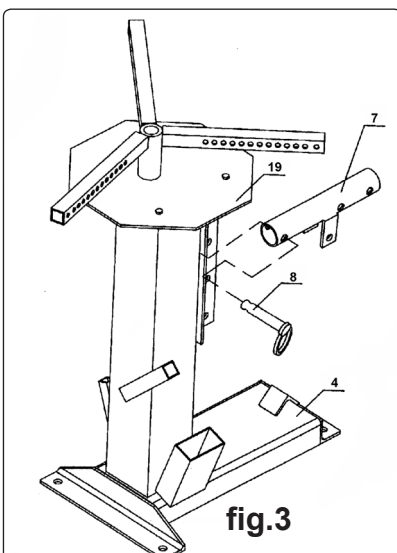

fig.3
- 3.2 Attach Pivot Arm (7) to the Main Stand using lock pin (8) (fig.3).